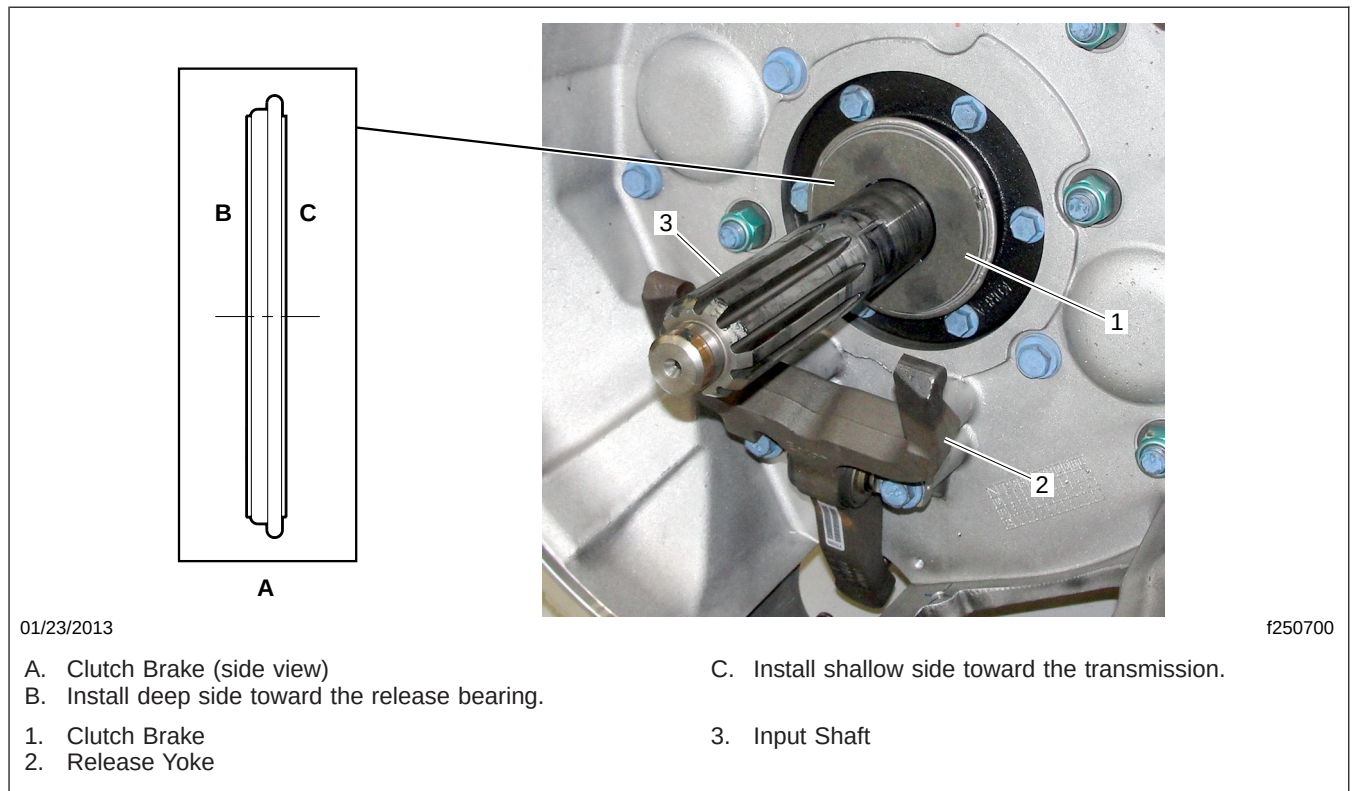

Fig. 15, Clutch Brake Installation
8. Install a new clutch brake on the transmission input shaft, as shown in **Fig. 15**. Slide it tight against the input-shaft bearing cap.